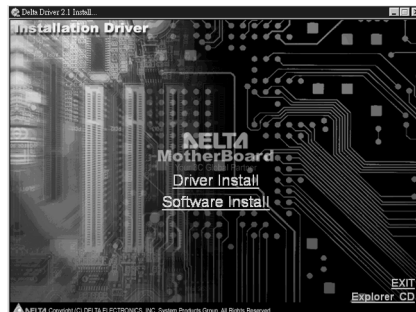
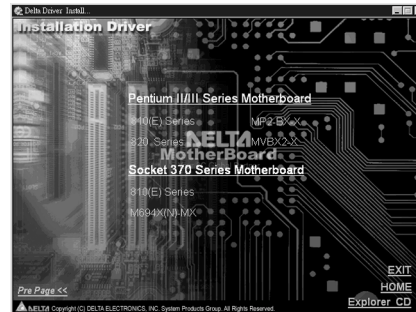

Figure 1
Figure 2
- The CD-ROM has an installation program that runs automatically when you place the CD-ROM disk into your CD-ROM drive. If the program doesn't run, double click the "CD drive" icon in "My Computer" to bring up the install screen will appear Figure 1, when you click on "Driver Install" from the opening screen of the installation program, the screen will appear Figure 2.